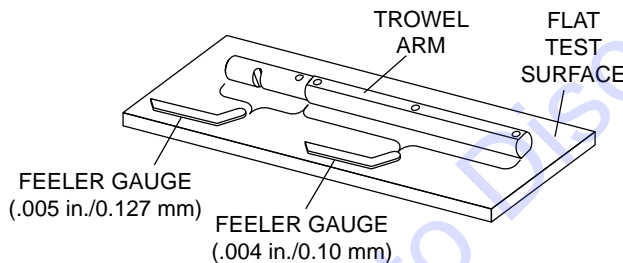

Figure 39. Checking Trowel Arm Flatness
arm will not allow the trowel to operate in a smooth fluid rotation. If bent trowel arms are suspect, check for flatness as shown below. Reference Figure 39:
2. Check each of the six sides of the trowel arm (hex section). A feeler gauge of .004" (0.10 mm) should not pass between the flat of the trowel arm and the test surface along its length on the test surface. (Figure 39).